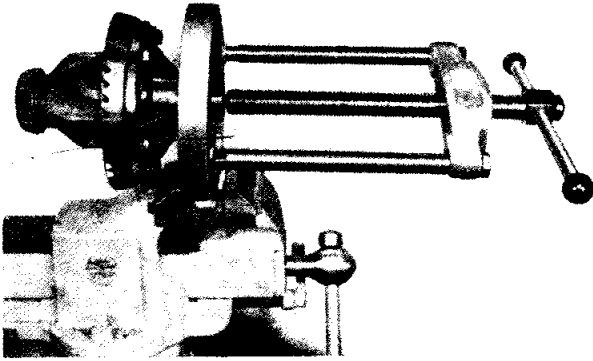

Fig. 31 Removal of the differential bearing utilising the Churchill Tool No. S103 and S4221 frame.
- (xxi) Having decided the thickness of shims required behind each differential bearing, these bearings are extracted with the special tool shown in Fig. 31. The